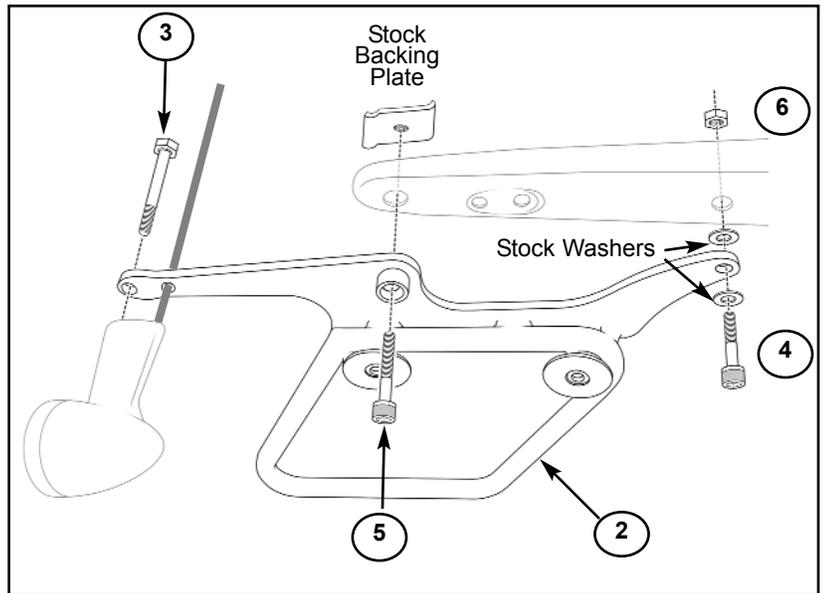

Figure 6
6. Install frame and strut cover. Use the two existing washers from the stock torx bolts removed earlier in step four and supplied Nuts and Bolts from Bag 783 as instructed below and shown in **figure 6**.